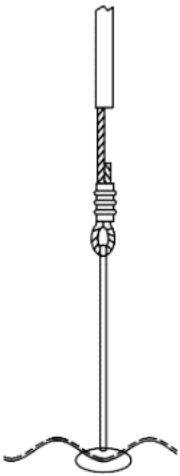

Figure 3
- Recommended cable attachment for all floors (see Figure 3). Using bottom loop for flat floor tie down. Secure with light line or twine. Countersink concrete anchor eyelet to avoid bin sweep
- Perforated aeration floor. See Figure 3.